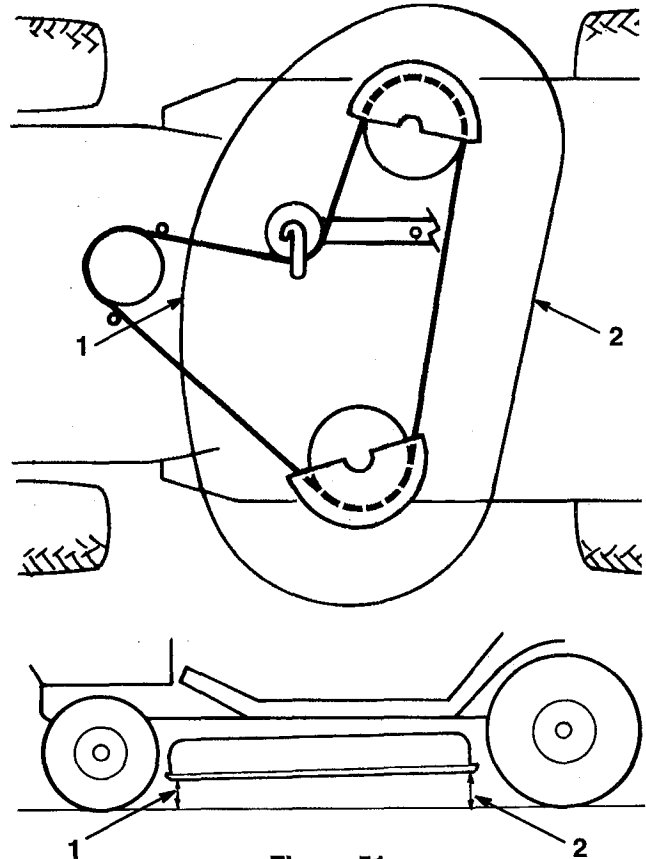

Figure 51
5. Check the front to rear slope by measuring between the bottom of the mower (front center and rear center) and the flat surface (Fig. 51). If the front of the mower is more than 5/8" (15.875 mm) lower than the rear of the mower, an adjustment is required; refer to steps 6, 7, 8 and 9.